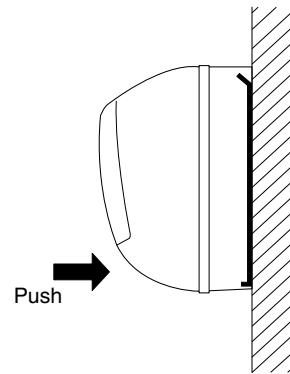

Fig. 3-103
- (1) To install the indoor unit, mount the indoor unit onto the 2 tabs on the upper part of the rear plate.
- (2) Hold down the air discharge outlet and press the lower part of the indoor unit until it clicks to securely fasten to the 2 tabs on the lower part of the rear plate. (Fig. 3-103)